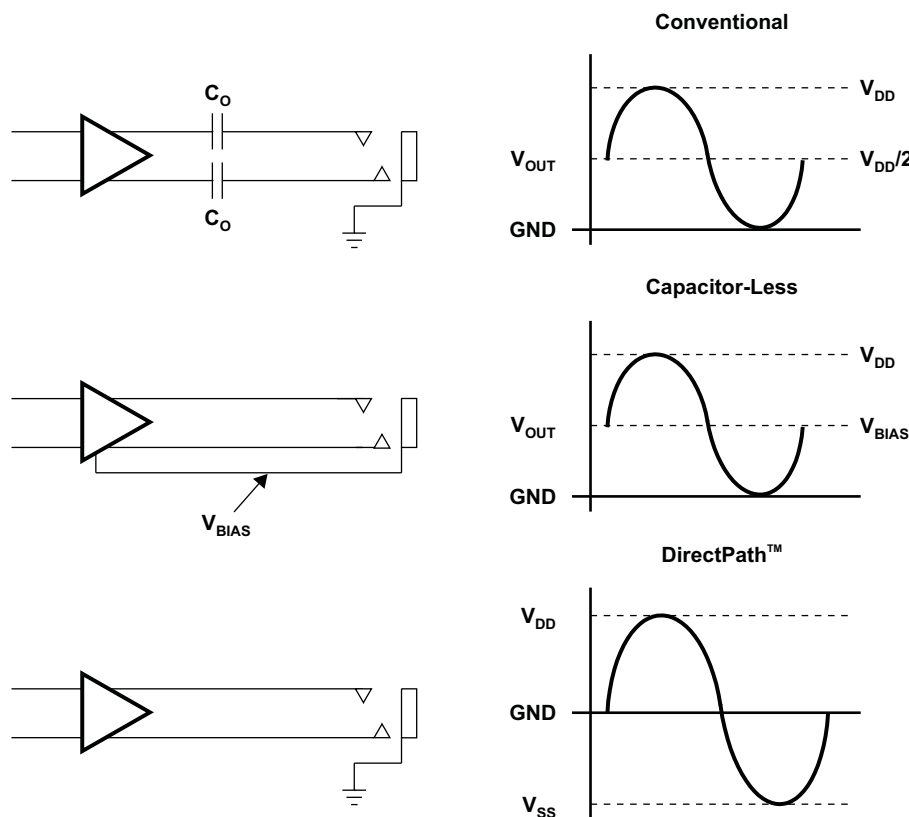

Figure 36. Amplifier Applications
The headphone amplifier has a fixed gain of -1.5 V/V. It uses single-ended (SE) inputs. The DirectPath™ amplifier architecture operates from a single supply but makes use of an internal charge pump to provide a negative voltage rail. Combining the user-provided positive rail and the negative rail generated by the IC, the device operates in what is effectively a split supply mode. The output voltages are now centered at zero volts with the capability to swing to the positive rail or negative rail. The DirectPath™ amplifier requires no output dc blocking capacitors and does not place any voltage on the sleeve. The block diagram and waveform in Figure 36 illustrate the ground-referenced headphone architecture. This is the architecture of the TPA6040A4.
Single-supply headphone amplifiers typically require dc-blocking capacitors. The capacitors are required because most headphone amplifiers have a dc bias on the outputs pin. If the dc bias is not removed, the output signal is severely clipped, and large amounts of dc current rush through the headphones, potentially damaging them. The left-side drawing in Figure 36 illustrates the conventional headphone amplifier connection to the headphone jack and output signal.
is connected to the headphone jack shield pin. This is the voltage on which the audio output signals are centered. This voltage reference is half of the amplifier power supply to allow symmetrical swing of the output voltages. Do not connect the shield to any GND reference, or large currents will result. The scenario can happen if, for example, an accessory other than a floating GND headphone is plugged into the headphone connector. See the second block diagram and waveform in Figure 36.